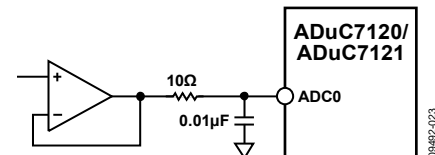
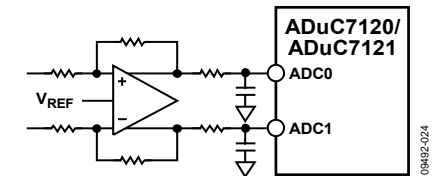

Figure 25. Buffering Single-Ended/Pseudo Differential Input
Figure 26. Buffering Differential Inputs
For ac applications, removing high frequency components from the analog input signal is recommended with a resistor (RC) low-pass filter on the relevant analog input pins. In applications where harmonic distortion and SNR are critical, drive the analog input from a low impedance source. Large source impedances significantly affect the ac performance of the ADC and can necessitate the use of an input buffer amplifier. The choice of the op amp is a function of the particular application. Figure 25 and Figure 26 give an example of an ADC front end.